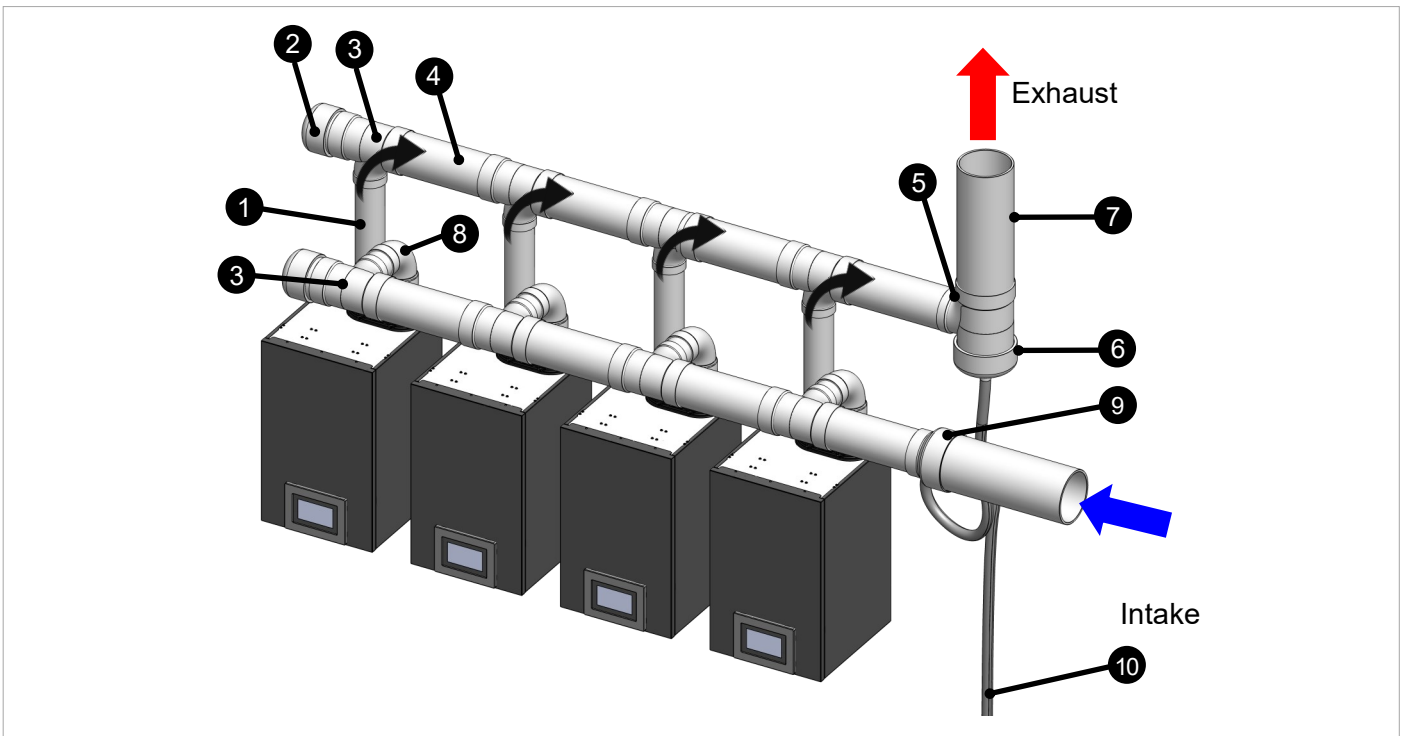

Fig 3. Schedule 40 PVC/CPVC Common Venting Example
Rinnai Commercial Boilers can only be common vented with Schedule 40 PVC/CPVC (Fig 3) or with a Rinnai certified Polypropylene (PP) common vent system.